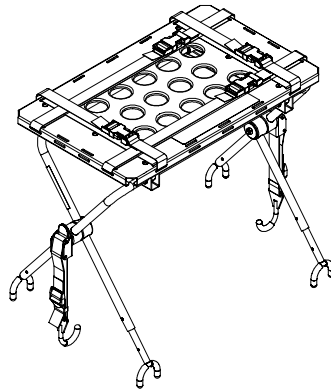

Figure 55
2. Open and expand the defibrillator platform legs as shown in Figure 55.